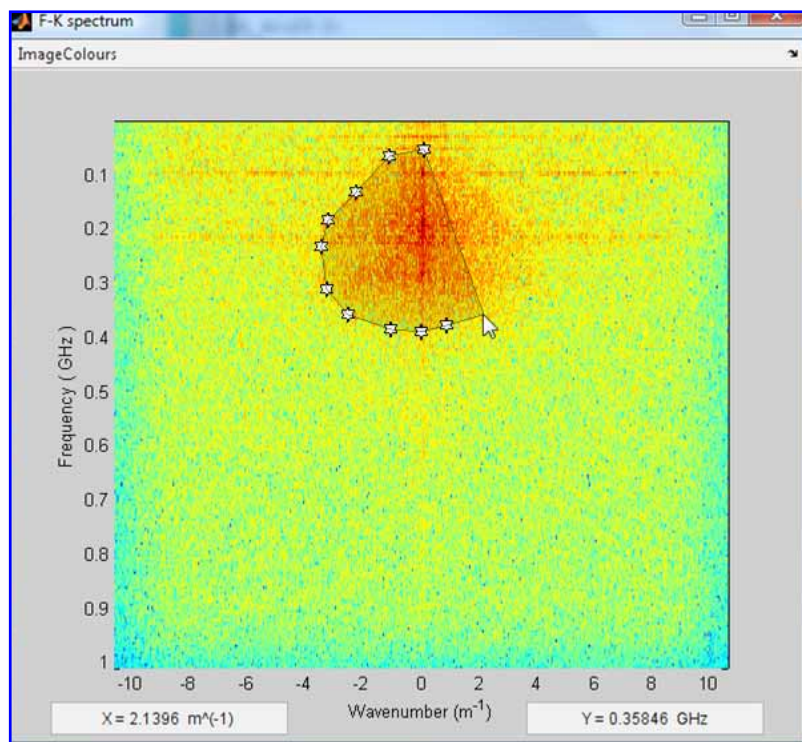

Figure 9. F-K filtering: Graphical assignment of a polygonal zone. This F-K spectrum belongs to the data of Figure 23.
- Set the coordinates graphically, on-screen: matGPR displays the log-amplitude of the F-K spectrum as per Figure 9 and the vertices of the polygonal zone are set by left-clicking at the desired (F, K)
Figure 23. The GPR section of Figure 22, after eliminating random noise with zone-pass F-K filtering. See Figure 9 for a map of the F-K spectrum and the shape of the pass zone.